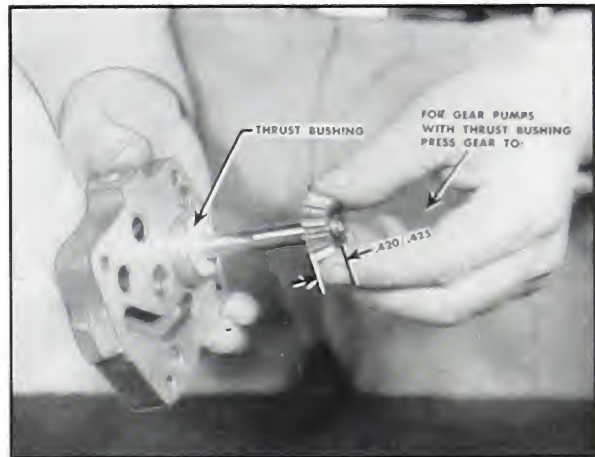

Fig. 5-291. Replacing drive shaft assembly
8. Remove the snap ring from the No. 2 cover and take out the drive shaft bearing. On latest pumps this bearing has been replaced with a thrust type bushing. Fig. 5-291. If this bushing is damaged it must be replaced with a new No. 2 cover as an assembly.
GEAR PUMPS WITH THRUST BUSHING: 1. Press the drive gear on the drive shaft until the distance from the back of the gear to the end of the shaft is .420/.425. Fig. 5-291.